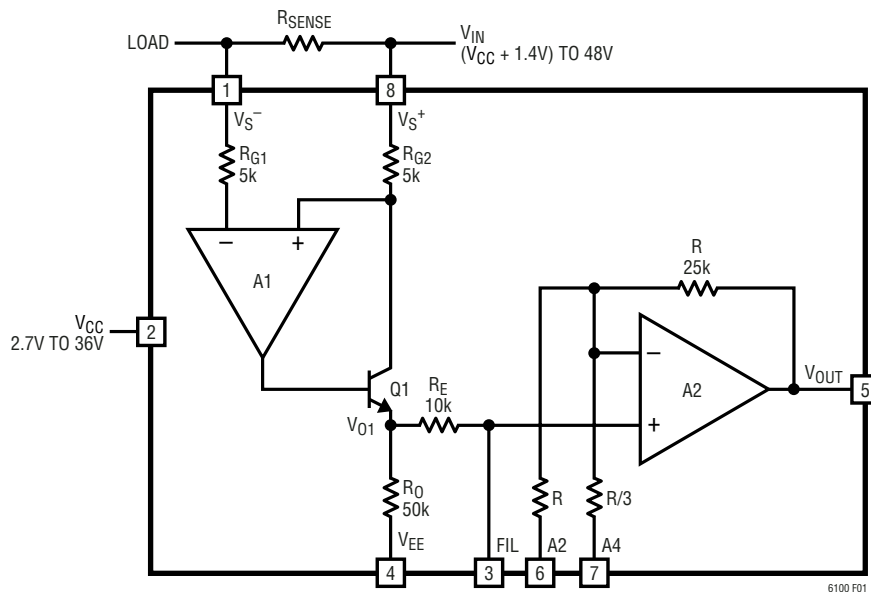

Figure 1. Functional Diagram
**VS+ (Pin 8):** Positive Sense Input Terminal. Connecting a supply to VS+ and a load to VS- will allow the LT6100 to monitor the current through RSENSE, refer to Figure 1. VS+ is connected to an internal gain setting resistor RG2 = 5k. VS+ remains functional for voltages up to 48V.
The LT6100 high side current sense amplifier (Figure 1) provides accurate unidirectional monitoring of current through a user-selected sense resistor. The LT6100 features a fully specified 4.1V to 48V input common mode range. A high PSRR  $V_{CC}$  supply (2.7V to 36V) powers the current sense amplifier and the internal op amp circuitry. The input sense voltage is level shifted from the positive sense power supply to the ground reference and amplified by a user-selected gain to the output. The buffered output voltage is directly proportional to the current flowing through the sense resistor.
### Theory of Operation (Refer to Figure 1)